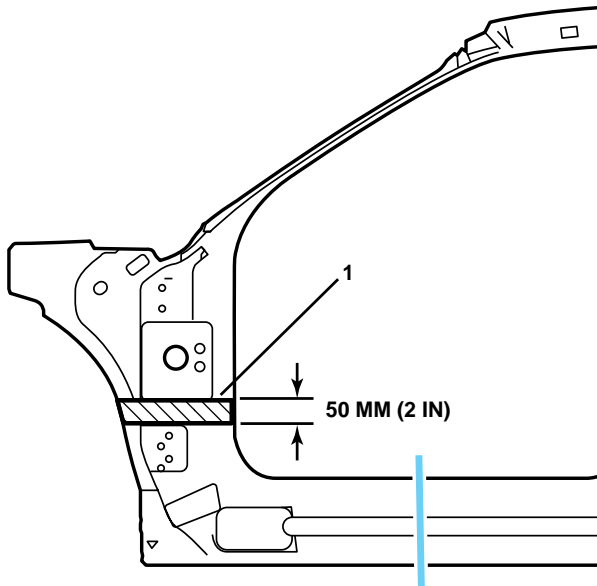

Fig. 1-12 — 2000 DeVille Inner Front Pillar Sectioning Locations
4. Locate and mark a horizontal line 50 mm (2 in) down from the raised, square portion of the hinge pillar (Fig. 1-12). This will be your cut location (1).
5. At rocker panel, locate and mark a vertical cut line in the approved sectioning location (Fig. 1-12).